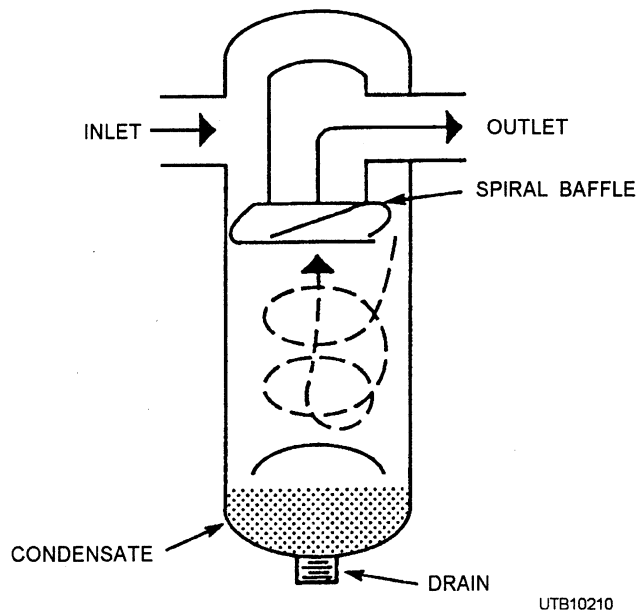

Figure 6-45.—Centrifugal moisture separator.
**SEPARATORS.**—Separators remove oil and water from compressed air. Figure 6-45 shows a centrifugal moisture separator. The air enters the unit in a swirling motion. Centrifugal action forces the moisture to the walls of the separator and then the moisture drains to the bottom of the separator.